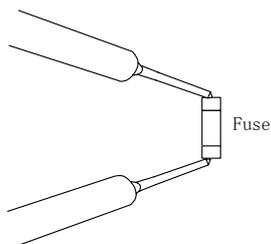

Fig. 2
- 2) Check for continuity by a multi-meter as shown in Fig.2.